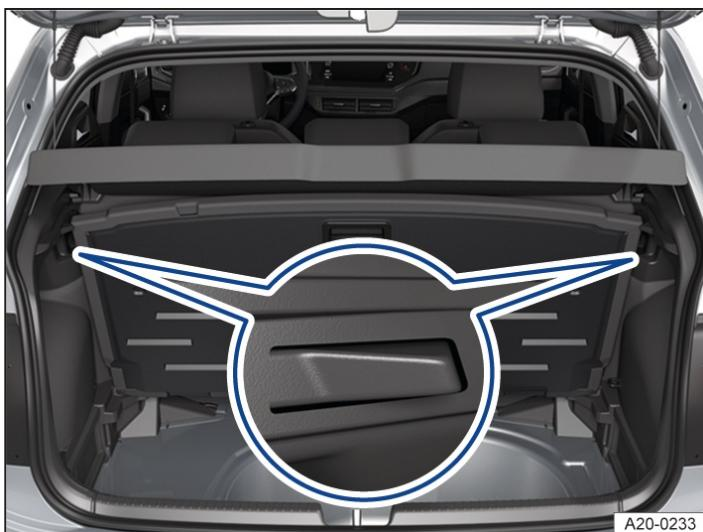

Fig. 2 In the luggage compartment: locking the variable luggage compartment floor in position.
2. To lock in position, lift up the variable luggage compartment floor until it is held in position by the side restraints → *Fig. 2* (close-up).